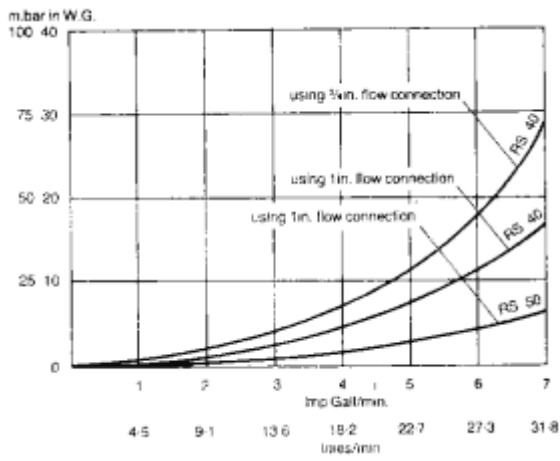

FIG. 2 PRESSURE LOSS ACROSS BOILER
6. The circulating pump should be selected with reference to Figure 2. The resistance through the boiler heat exchanger will not exceed 20mbar (8in/w.g.) at a flow rate of 4 gall/mm. for RS40 boilers. For RS50S boilers the heat exchanger resistance is considerably lower.